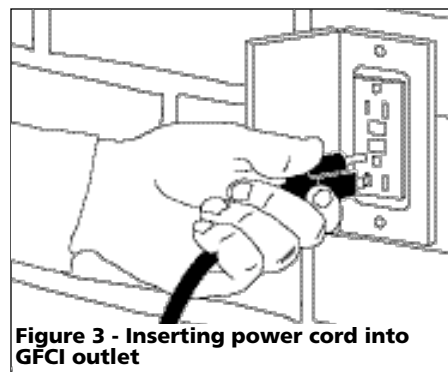

Figure 3 - Inserting power cord into GFCI outlet
3. This pump is only for use on 120 volt (single phase), 60 Hz, 15 amp service and is equipped with a 3-conductor cord and 3-prong, grounding type plug. Insert power cord directly into GFCI outlet (see Figure 3).